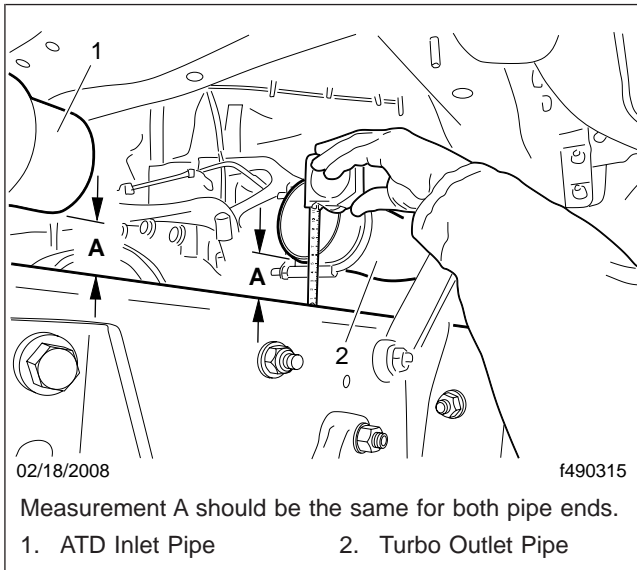

Fig. 1, Vertical Measurement
- 3.3 Measure the vertical distance between the pipe ends and the frame rail. See Fig. 1. This measurement must be the same for both pipe ends.